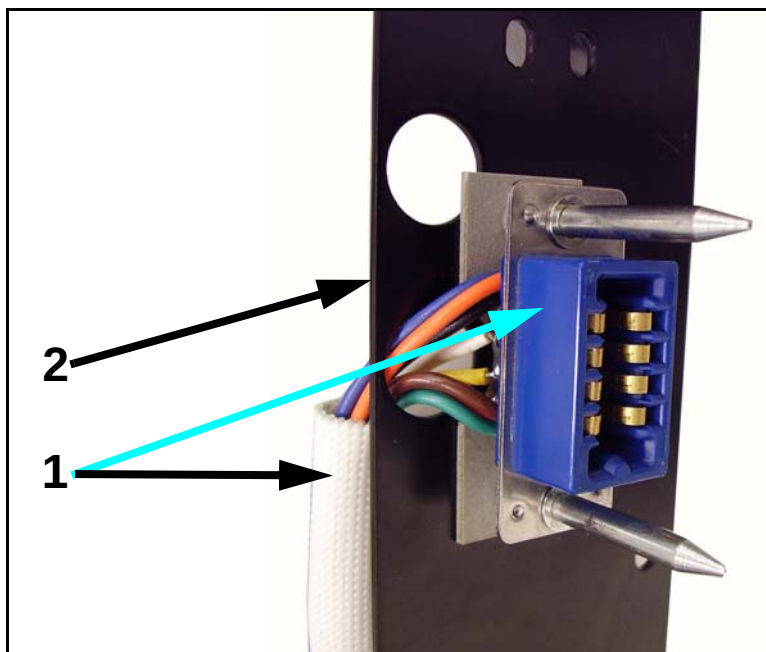

Figure 6-23. PBL Connector
- 11** Pull connector and harness (1 in Figure 6-23) out of bracket (2).